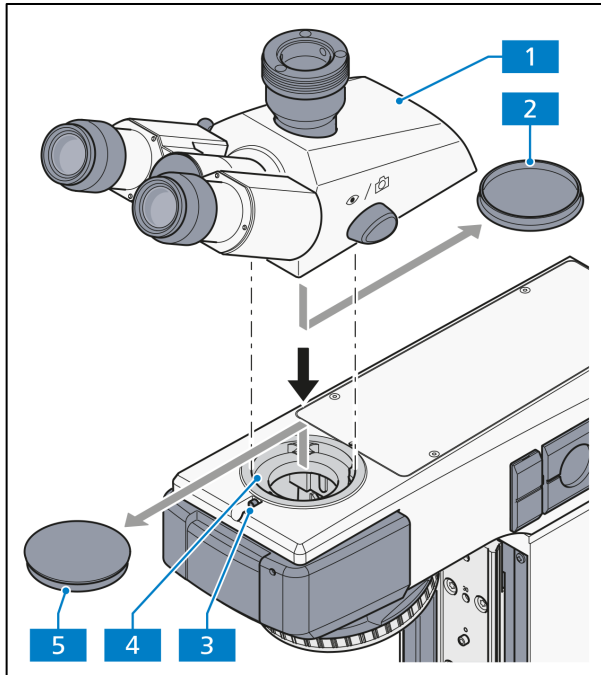

Fig. 3-3 Attaching the binocular tube
- Loosen the screws (Fig. 3-3/3) with the Allen wrench (AF 3).
- Remove the dust cover caps (Fig. 3-3/2 and 5) from the bottom of the tube and the dovetail ring socket on the stand.
- Hold the binocular tube (Fig. 3-3/1) or the binocular photo tube at an angle and insert it into the stand socket with the dovetail ring (Fig. 3-3/4).